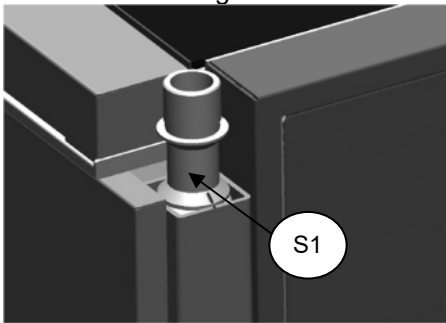

Fig. 3
5. Place the fastening cone **S1** matching up the red dot with the red line in the square tube. Then give it a little tap (Fig.3)